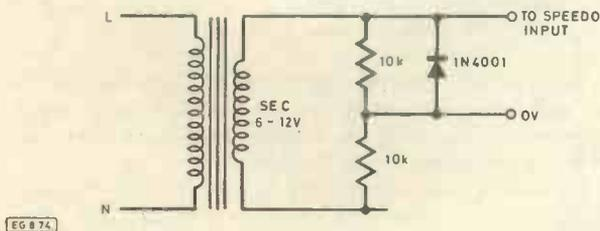

Fig. 4. Frequency generator
3. Connect a frequency source (if available) to the speed input. A simple generator as shown in Fig. 4 is quite adequate. Adjust VR3 to give more than f.s.d. then adjust VR2 to bring the needle or bargraph to exactly full scale. Then